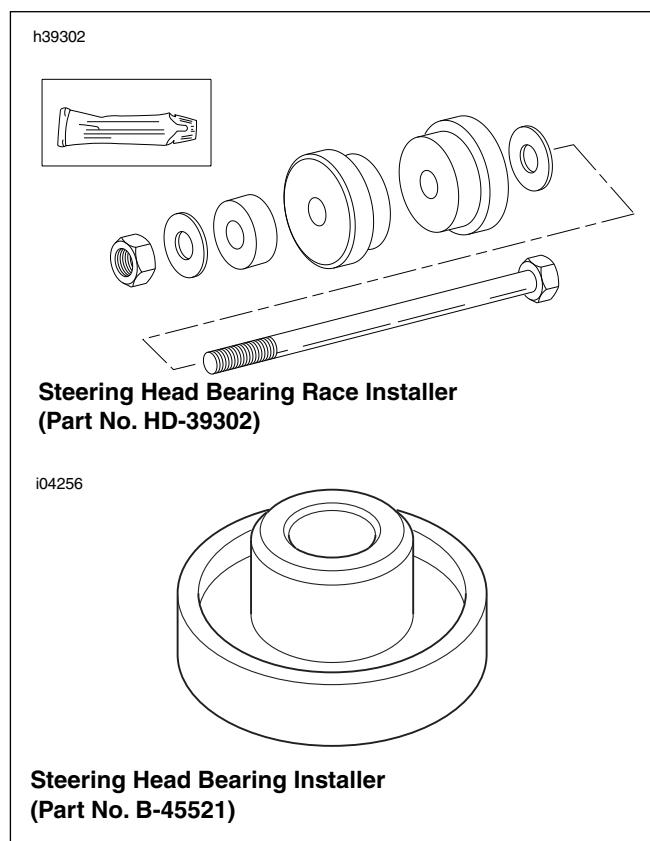

Figure 2-77. Steering Head Bearings Installation Tools
1. See Figure 2-77. Install **new** upper and lower steering head bearings into the steering stem using STEERING HEAD BEARING RACE INSTALLER (Part No. HD-39302).
- b. See Figure 2-77. Insert the steering head bearing installation tool into the upper bearing, with the shoulder into the bearing bore.